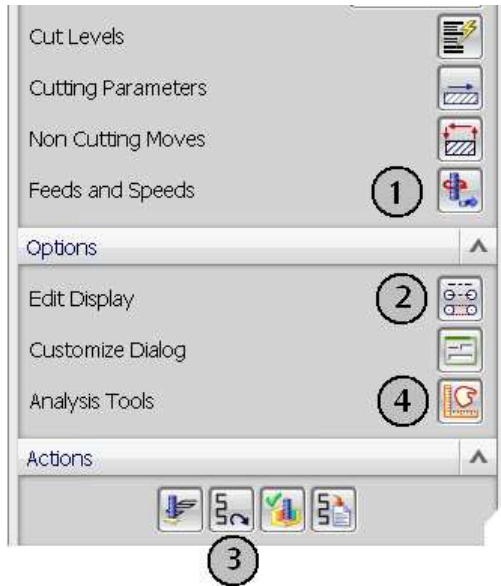

Figure 8.16. Options for the operation dialog box
57. Click on the *Feeds and Speeds* icon — figure 8.16 (1).
- Click on the *Edit Display* icon — figure 8.16 (2).
- In the main dialog box of the operation, click on the *Replay* icon in order to refresh the view of tool paths — figure 8.16 (3).